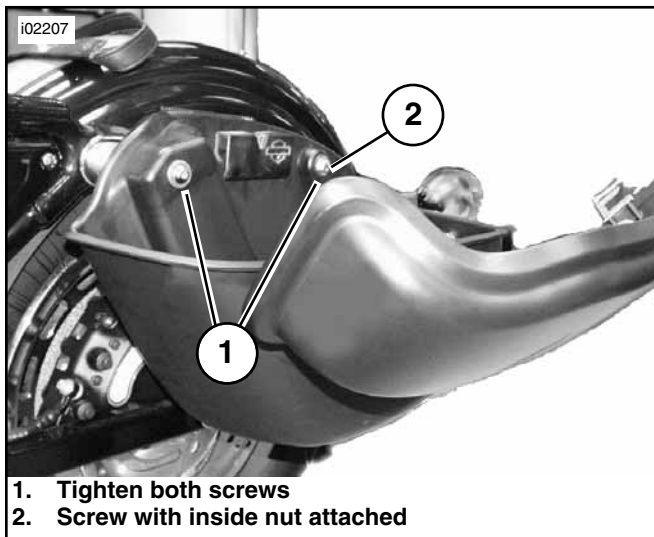

Figure 19. Saddlebag Attached to Motorcycle
29. See Figure 19. Tighten both screws (1) to 27-29 ft-lbs (36.6-39.3 Nm) torque to attach saddlebag assembly to motorcycle. Use nut (not shown) (Part Number 8093) held inside saddlebag to attach screw (2). Use Loctite on threads. Torque to 23-25 ft-lbs (31.2 - 33.8 Nm). Slip vinyl cap (part number 91573-04) onto the exposed threads.